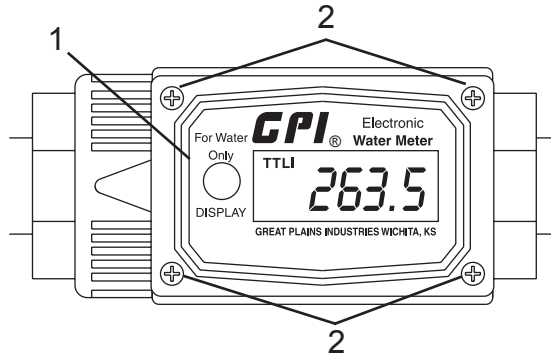

Figure 154
1. Remove four screws (Figure 154, Item 2) from the face of the meter and remove the faceplate (Figure 154, Item 1) from the meter body.